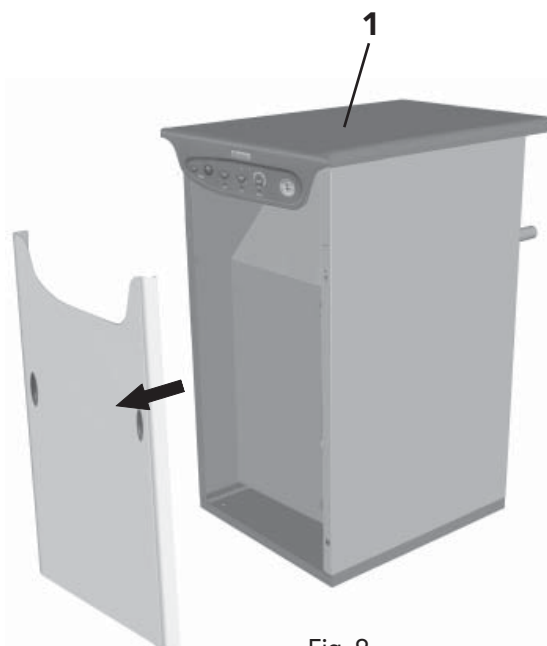

Fig. 9
To open the front panel, see the procedure in Fig. 9.
- Take the front panel off the boiler (see Fig. 9).